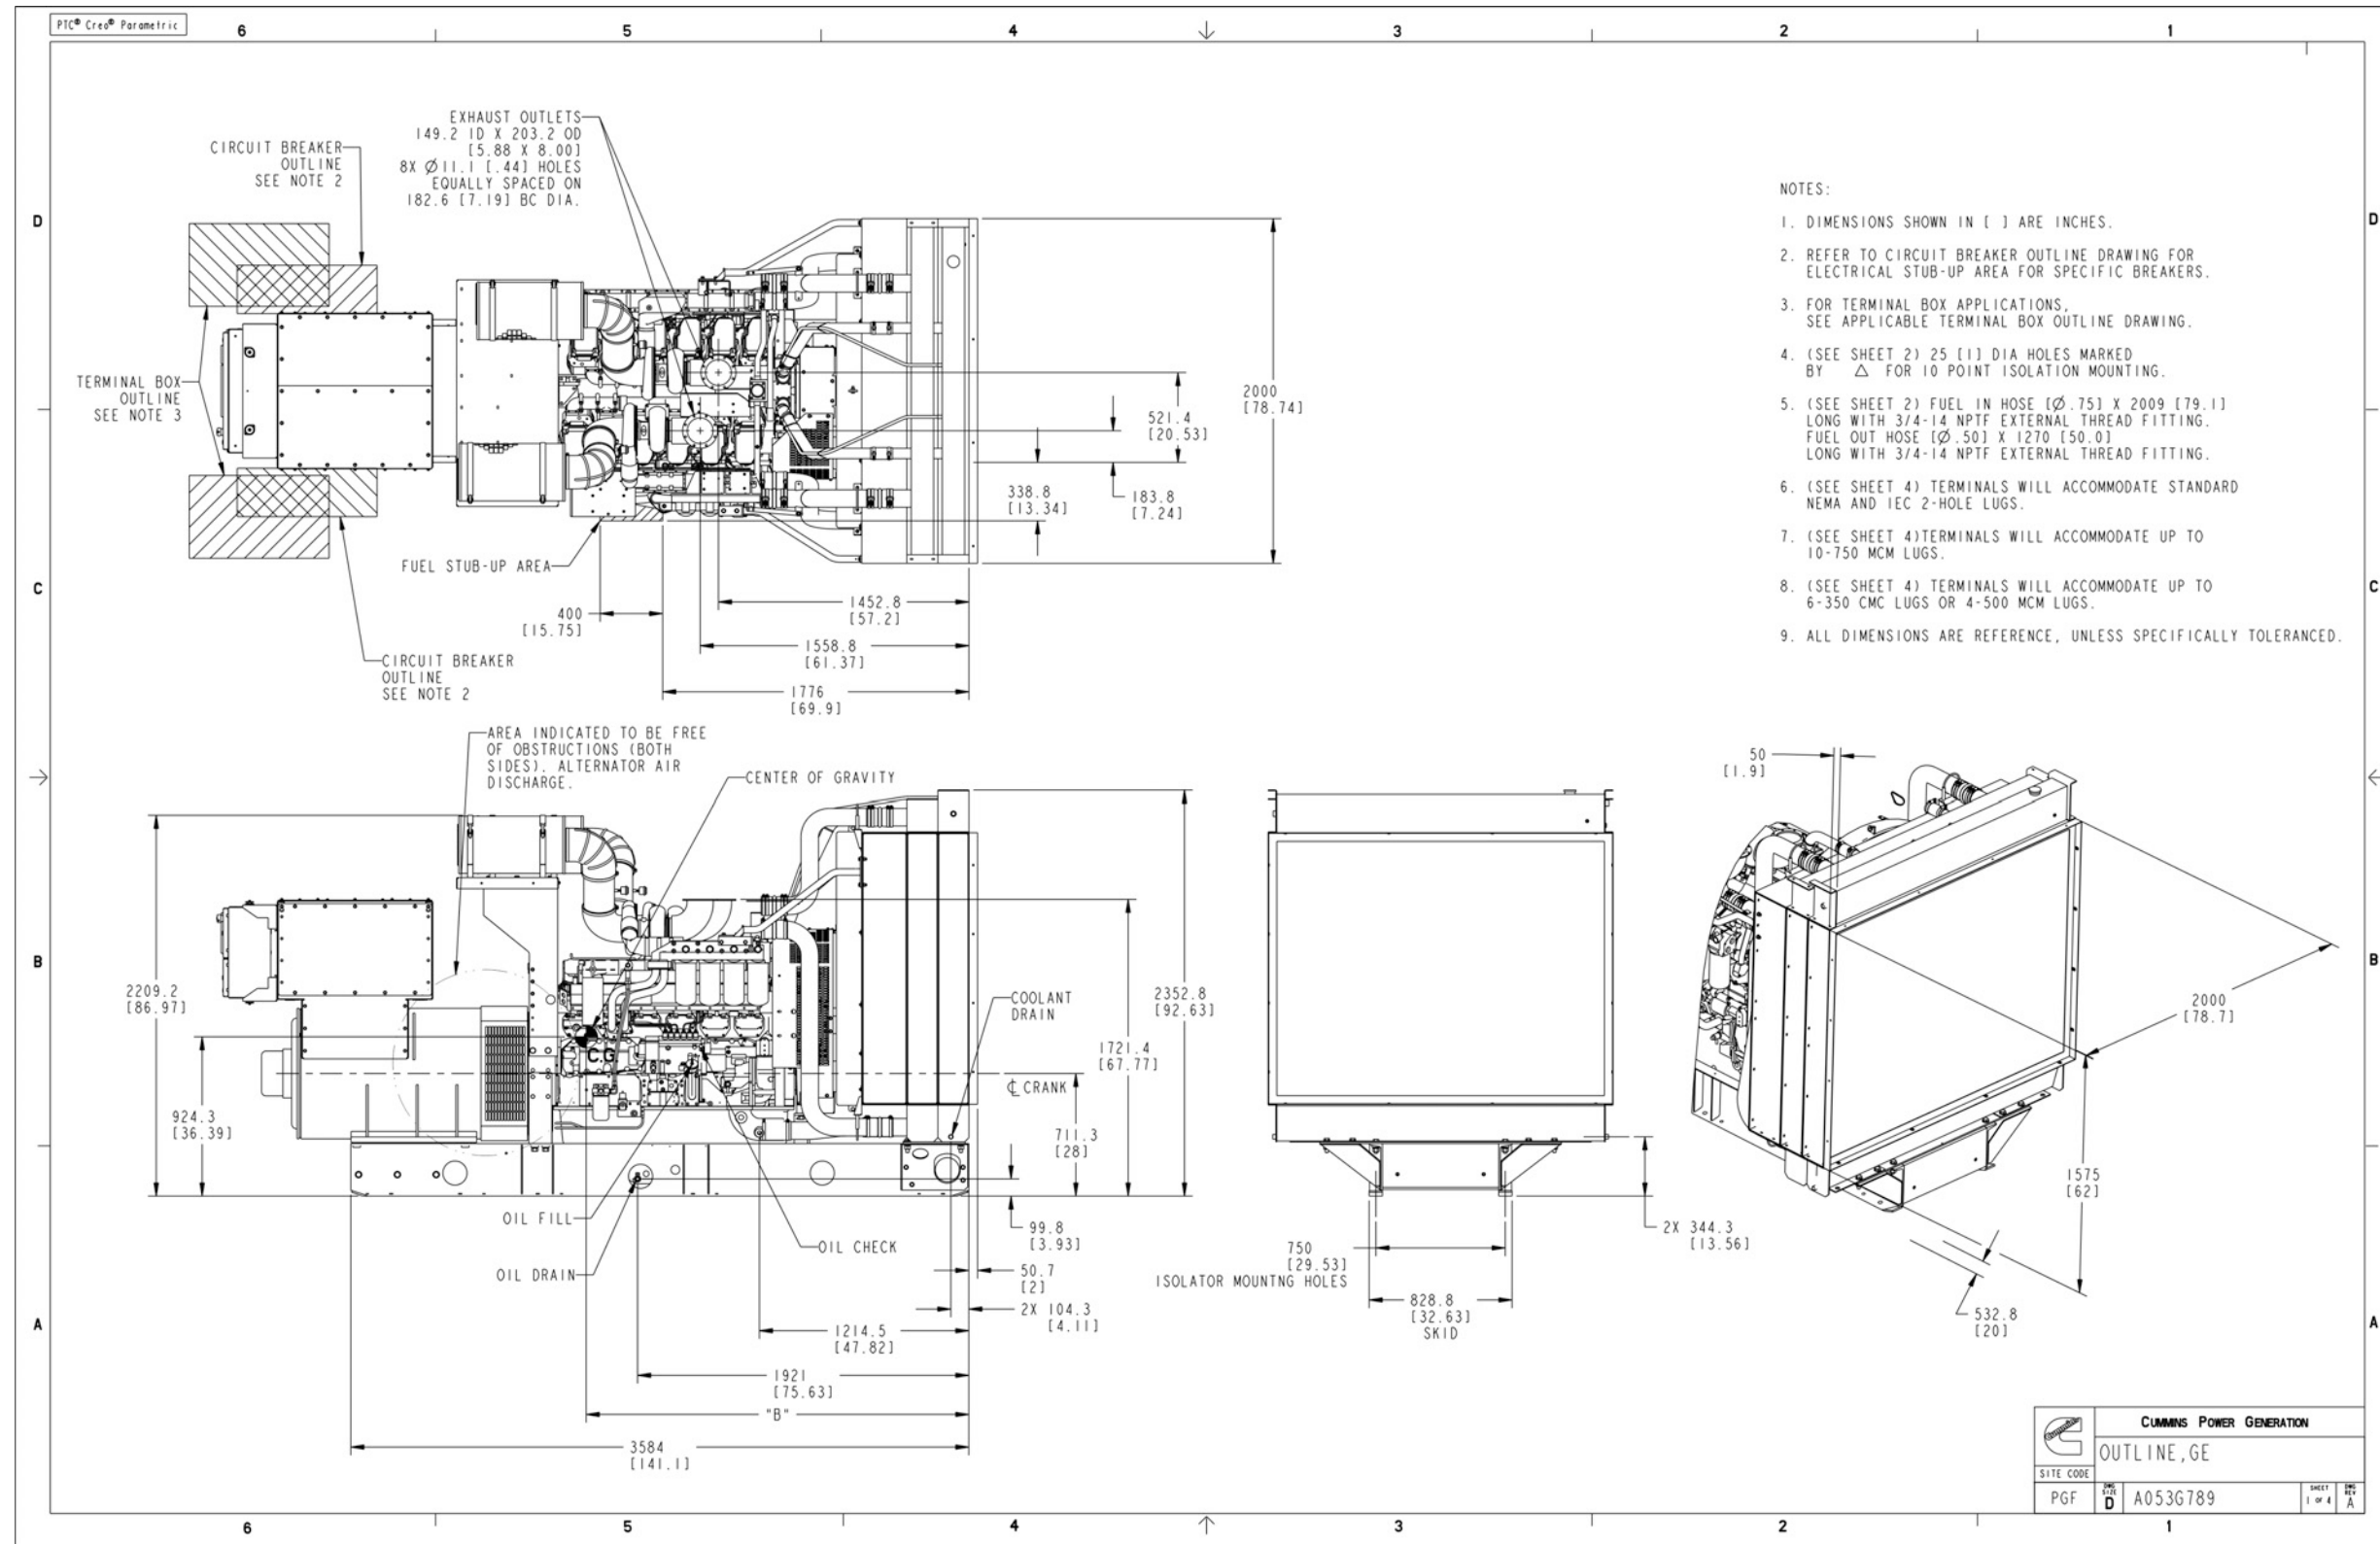

FIGURE 61. GENERATOR SET OUTLINE DRAWING (BEARWARD SET MOUNTED RADIATOR) (SHEET 1)
- Figure 61. Generator Set Outline Drawing (Bearward Set Mounted Radiator) (Sheet 1) 127